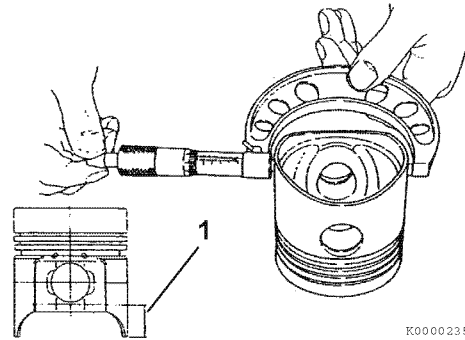

Figure 6-50
4. Measure the diameter of the piston skirt at 90° to the wrist pin bore as shown (**Figure 6-50**). Measurements must be taken at a specified distance (1, **Figure 6-50**) from the bottom of the piston, based on engine model. Record the measurements. See *Piston on page 6-9* for specifications.